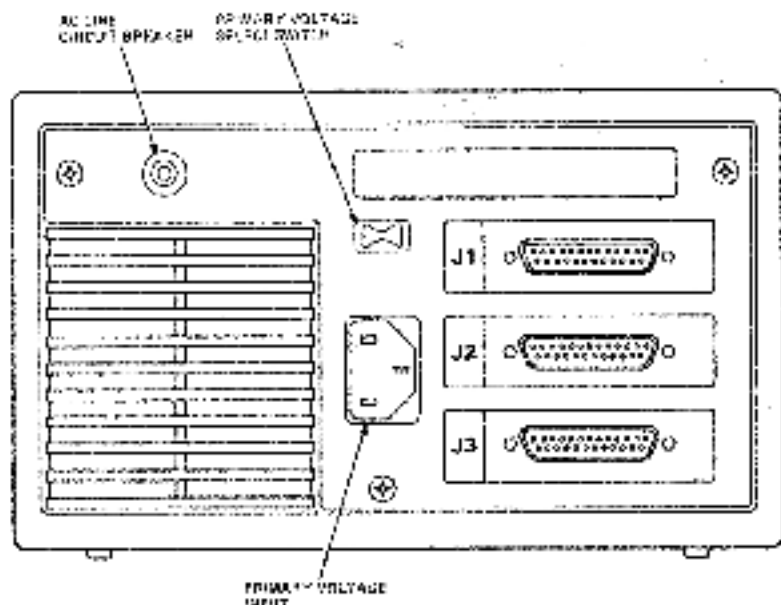

Figure 3-3 Rear Panel
The rear panel contains the circuit breaker (CB) and primary voltage selection switch (VOLT SEL). The circuit breaker fuses the ac power coming into the subsystem. The VOLT SEL switch selects 120 Vac or 240 Vac. The rear panel also contains the ac line connector for the ac power cord, the exhaust opening for the dc fan, and connectors J1 through J3. Figure 3-3 shows the rear panel.